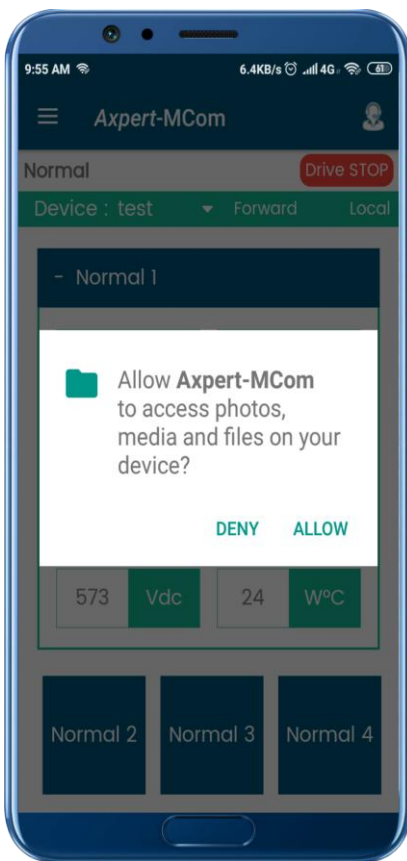

Figure 13: Application permission
- On first time after installation, a dialogue box will appear asking for the storage permission (Figure 13). Storage permission shall be needed to download fault history and all user parameters reports. So accept it.